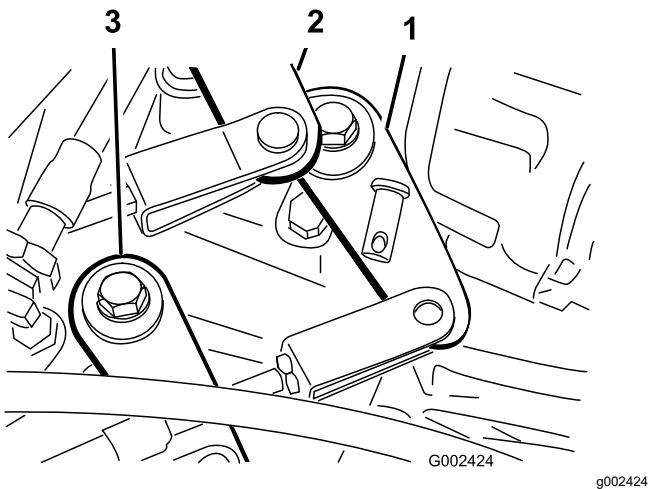

Figure 54
2. Remove the clevis pins securing the shift cables to the transaxle-shift arms (Figure 54).
1. Remove the clevis pin securing the High-Low cable to the transaxle (Figure 54).